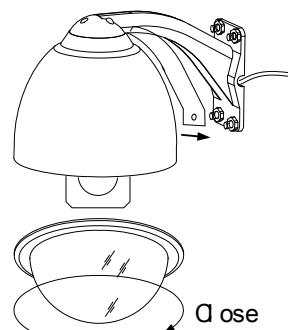

Figure 13
10. Rotate the vitreous cover clockwise and mount it (Figure 13) .